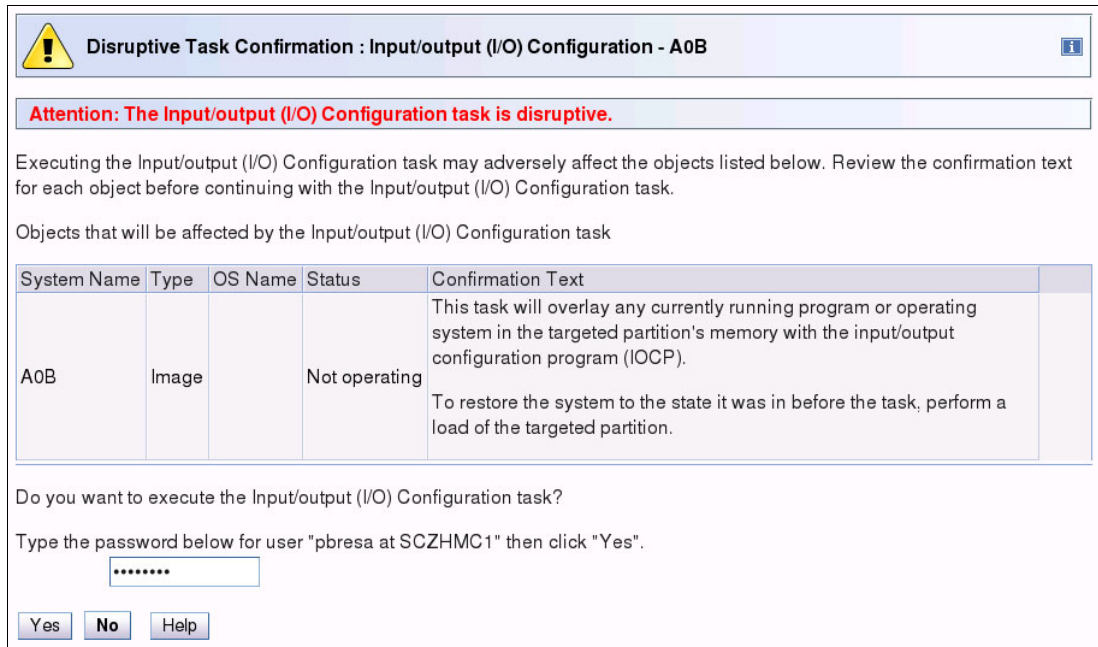

Figure 7-90 HMC - SAIOCP - build warning window
17. Observe the Build warning message, enter your HMC password, and click **Yes** (Figure 7-90).